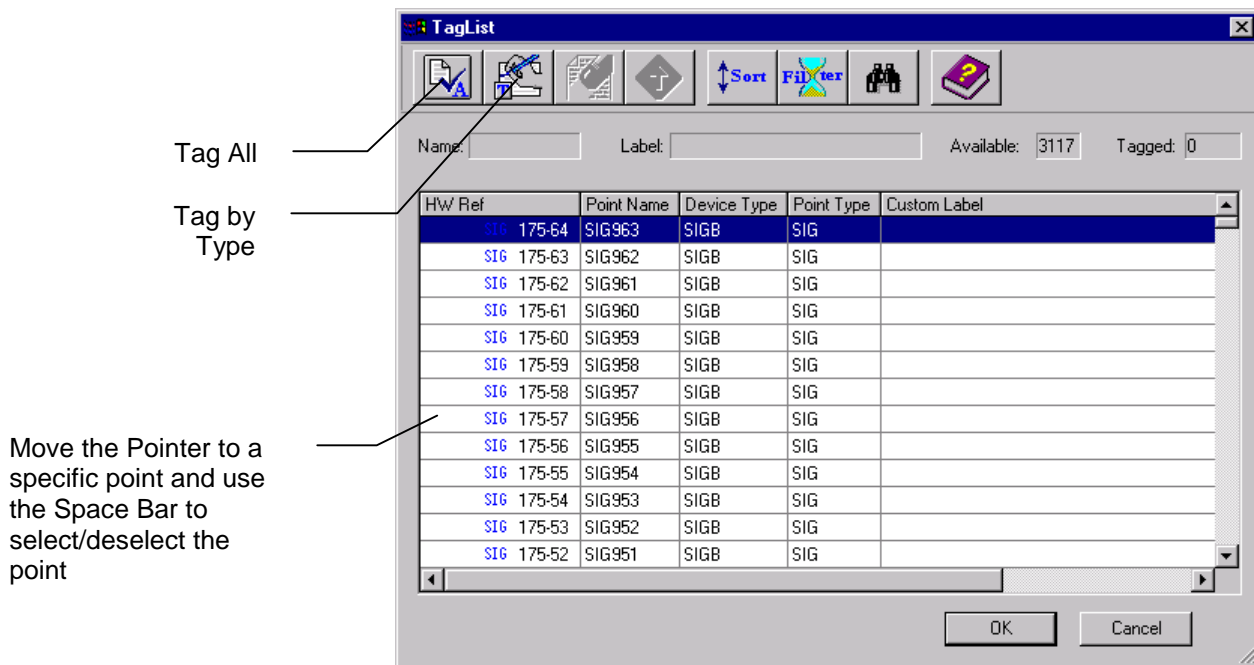

Figure 8-2. Taglist Window
2. Open the TagList window by either pressing the Insert key or right clicking in the List Window and selecting **Add List**. A TagList window, similar to the one shown in Figure 8-2, appears.